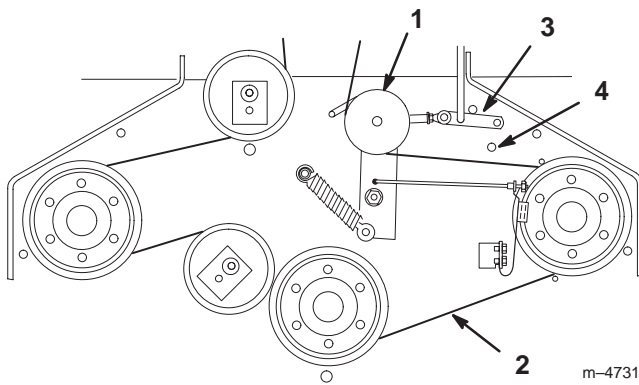
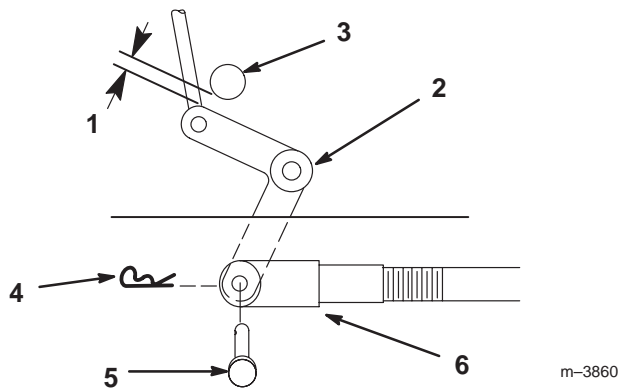

Figure 51
Figure 52
4. Remove mower belt (Fig. 51).
8. Install the mower belt (Fig. 51).
4. Remove idler pulley and then remove worn belt (Fig. 51).
Note: Proper belt tension is 10–15 lbf. (44–67 N) with the belt deflected a 1/2 inch (13mm) halfway between pulleys (Fig. 51).
- Engage PTO lever and check the clearance between the bellcrank and the transmission output shaft (Fig. 52). Space should be 1/16–1/8 inch (2 mm–3 mm).
- Remove hairpin cotter and clevis pin from bellcrank. Rotate clevis clockwise on rod to increase or counterclockwise to decrease clearance (Fig. 52).
- Disengage the PTO. If the assist arm does not contact the front stop on the mower deck (Fig. 51), readjust the clevis to bring the bellcrank closer to the transmission output shaft (Fig. 52).